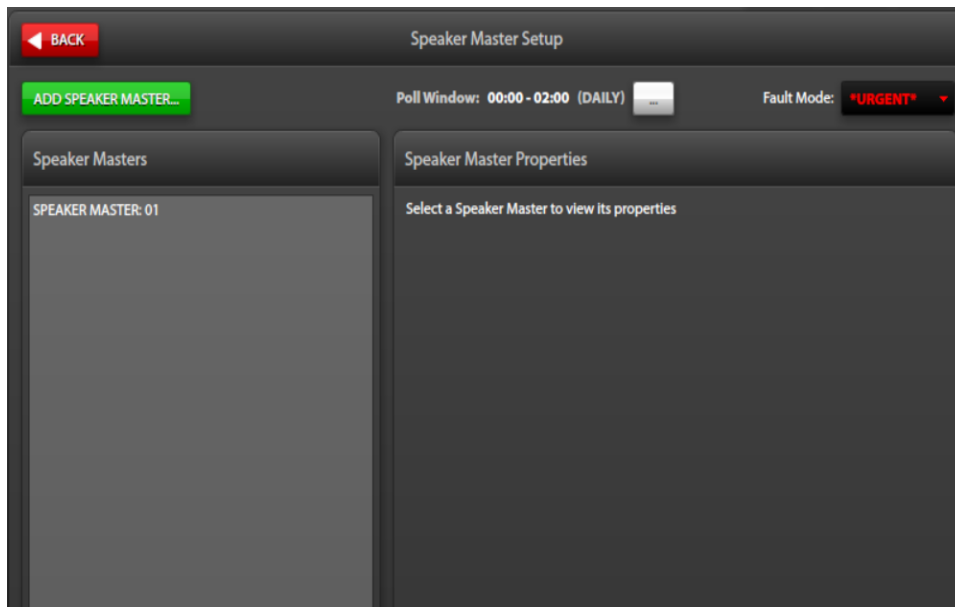

Figure 26. Speaker Mater Setup
1. Click the SPEAKER MASTERS button, located under the AMPLIFIERS button on the SYSTEM PROPERTIES screen, to open the SPEAKER MASTER SETUP screen (see Figure 26).